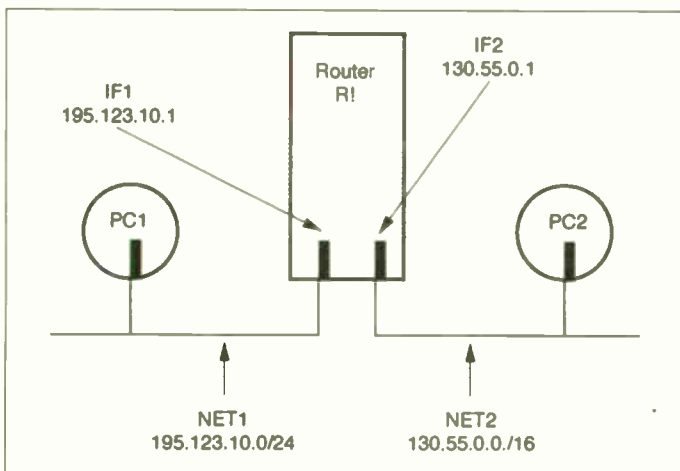

Fig. 1: A router with two interfaces connected to two networks.
The chopper power supply, see Figs. 1 and 2, is based on the popular TEA1507 control chip (IC7520), a so-called second-generation green chip. This 8-pin dual in-line IC is designed to maximise power efficiency in all operating modes. A special feature, called the burst mode, can be used for low-power standby operation. In this mode the chip produces controlled bursts of switching signals to operate the chopper power supply in a low-power condition, producing just enough power to maintain the 3.3V supply for the UOC device.
A router has two or more network interface cards, usually known simply as interfaces, see Fig. 1. Each interface (IF) is connected to a network that has a different network address. Routing information, in the form of network addresses, their subnet masks and the route to the network, is held in a routing table. In Fig. 1 interface IF1 is connected to network 195.123.10.0/24 (subnet mask 255.255.255.0) while interface IF2 is connected to network 130.55.0.1 (subnet mask 255.255.0.0). By default, the router will know of the existence of the two networks and will enter them in its routing table, as shown in Table 1.
Table 1: Routing table for R1, Fig. 1